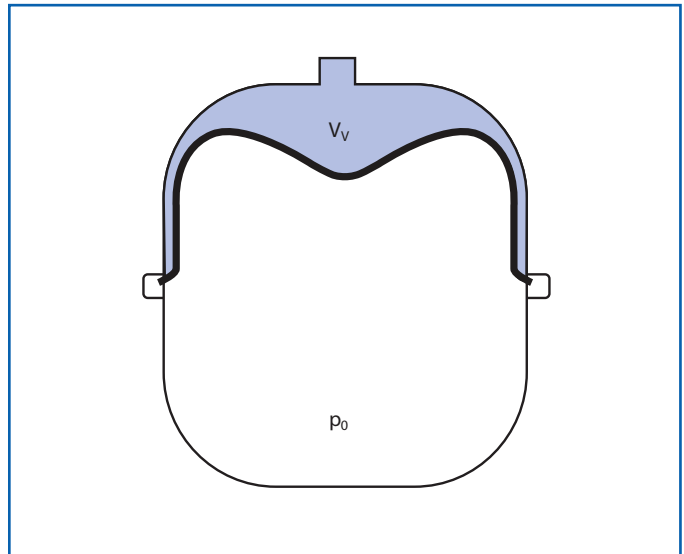

Fig. 106 Filling pressure of a diaphragm expansion vessel
The expansion vessel creates an equilibrium between the fluid pressure and the gas pressure. The equilibrium ( $V_v$ , Fig. 106) is set with the system cold and monitored via the pressure gauge after bleeding the air from the system. The system pressure should be dialed in at 5 psi above the DEV preset pressure. A controlled evaporation temperature of 250 °F (120 °C) is therefore reached in the event of stagnation.
**Calculation parameters** (Fig. 105) and picture legend (Fig. 106)